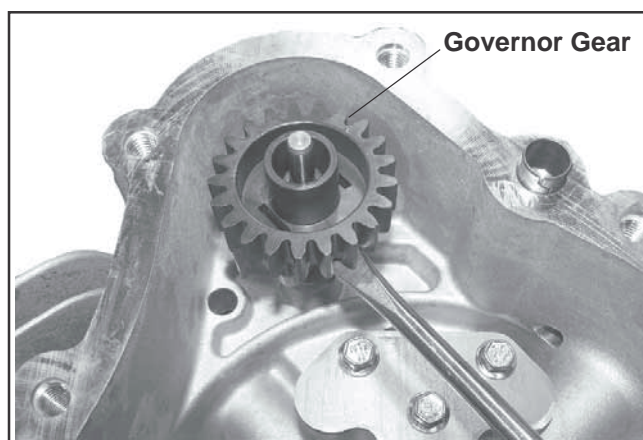

Figure 8-60. Removing Governor Gear.
2. Using a screwdriver, carefully pry upward to unseat the governor gear assembly from the governor gear shaft. Remove the regulating pin and governor gear assembly. See Figure 8-60.